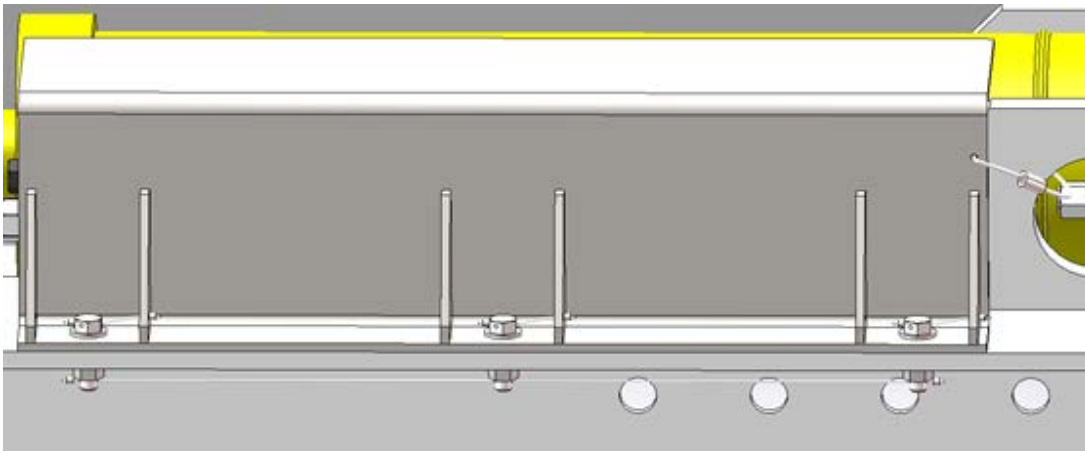

Figure 3: Tensioning cable cylinder guard
1. Wire the cover for the tensioning cable cylinder (Figure 3).